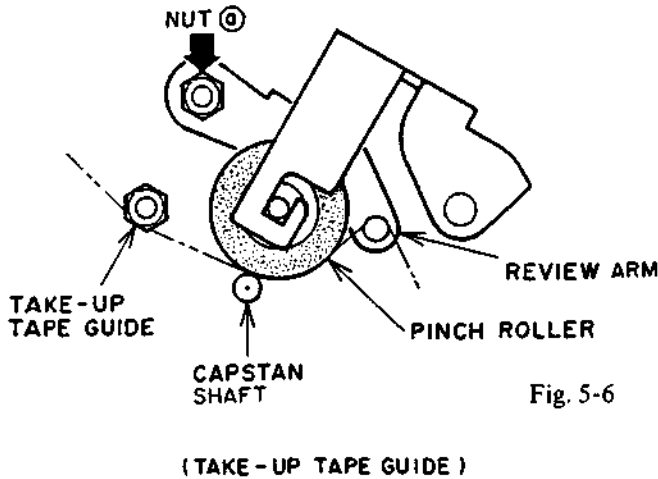
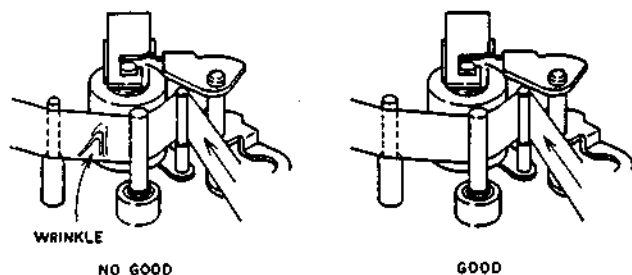

Fig. 5-6
Fig. 5-8
- 2) Turn the REVIEW ARM height nut (a) so that the edge of the tape barely touches the lower part of the TAKE-UP TAPE GUIDE without any curl or wrinkle between the TAKE-UP TAPE GUIDE and the CAPSTAN SHAFT as shown in Fig.5-6 to Fig.5-8.
If a curl or wrinkle of the tape has occurred, slightly turn the (a) nut (shown in Fig.5-6) until it disappears.